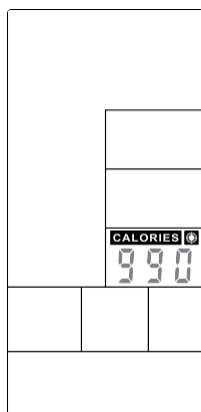

Figure 43
- ① In Standby mode, press Target Calories key and **CALORIES** will light up, along with a long sound for 1s.
- ② CALORIES value is flashing, press UP and DOWN to adjust (Figure 43). Press ENTER to confirm meanwhile buzzer beeps 1s and **CALORIES** lasting lighting up